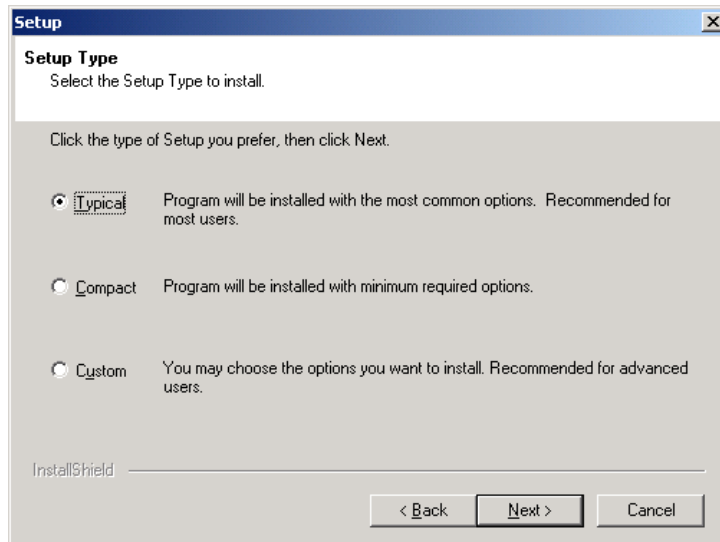

Figure 1 - Selecting the Type of Installation.
6. Select "Next" to choose the type of setup to perform (see Figure 1). "Typical" will install the most common components, while "Compact" will only install the absolute necessary components. To choose which components to install, choose "Custom".